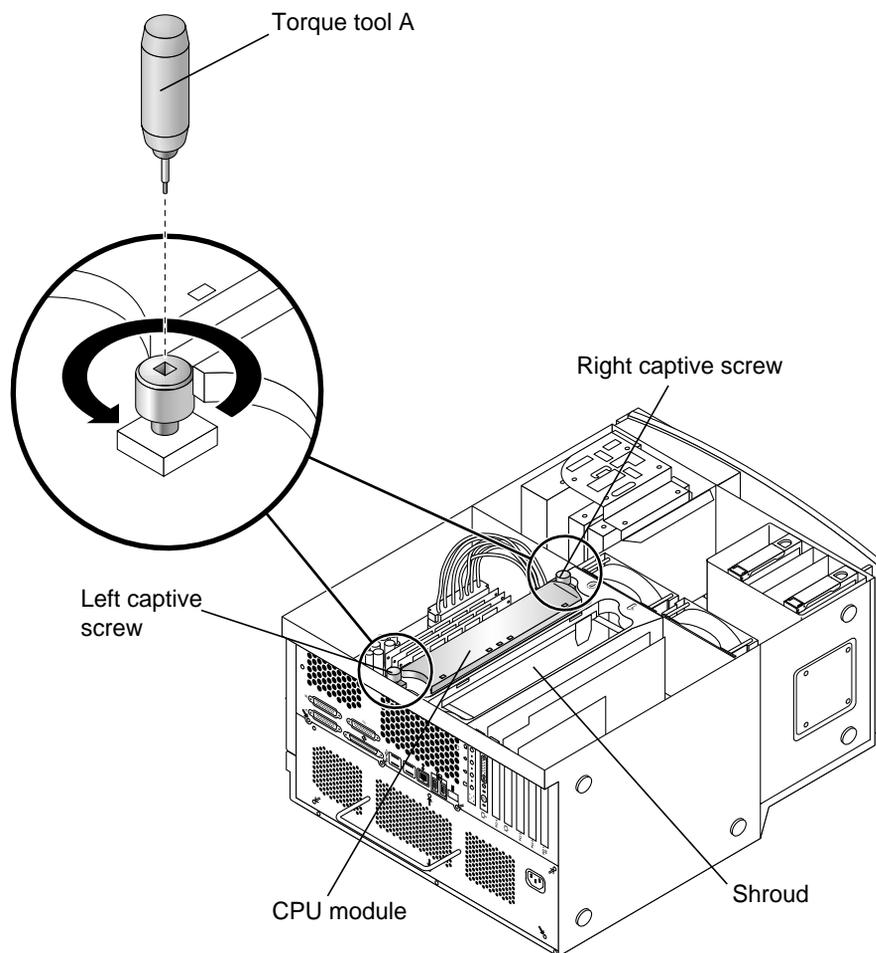

FIGURE 8 Using Torque Tool A to Remove the CPU Module
- a. Alternately rotate the left and right captive screws one turn counterclockwise until the screws are free of the threaded inserts (see FIGURE 8).